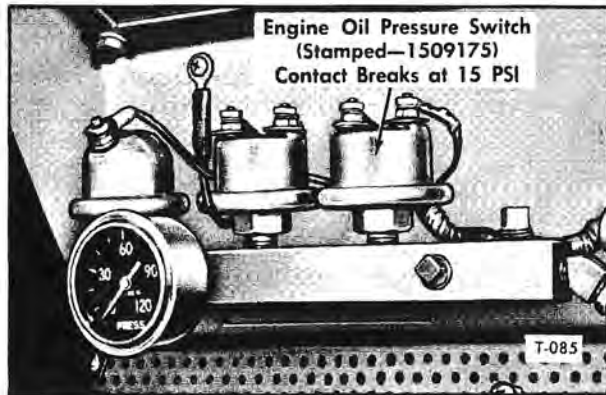

Figure 5—A/C Control Engine Oil Pressure Safety Switch Installed
in the apparatus box at right rear of coach as shown in figure 5 in "WIRING AND MISCELLANEOUS ELECTRICAL" (SEC. 7).
Engine oil pressure safety switch is mounted in manifold on engine bulkhead (fig. 5).
Air valve is an electrically-operated valve which controls flow of air pressure for the operation of compressor drive clutch. Circuit to valve is controlled by the air conditioning control relay mounted in apparatus box at right rear of coach, as shown in figure 5 in ELECTRICAL (SEC. 7) (item 9).